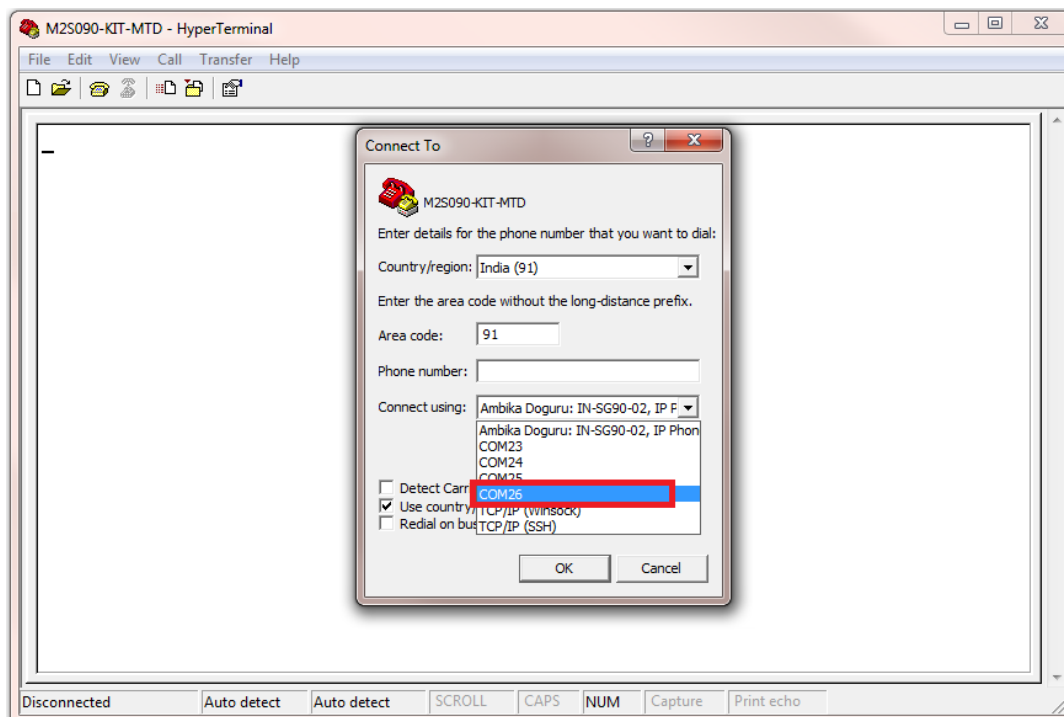

Figure 31 Connect To Window
3. Enter **M2S090-KIT-MTD** as connection name and click **OK**. The **Connect To** dialog-box is displayed as shown in Figure 31.